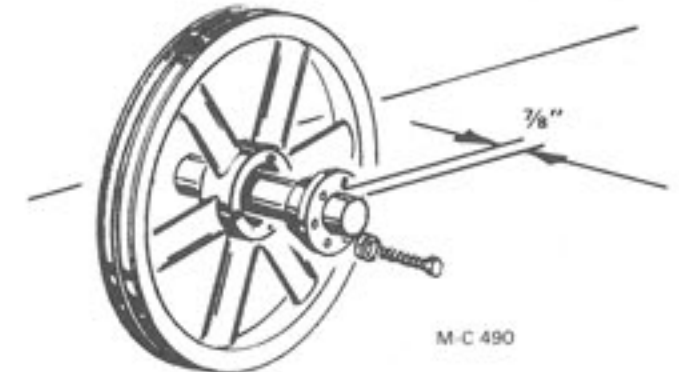

Figure 10 - Unload Auger Pulley
5. Install the 3/8" x 2" key in the unload auger shaft. Slide the pulley and bushing assembly onto the shaft until the distance from the end of the shaft to the face of the bushing is 7/8", see Figure 10. If the bushing is too tight on the shaft, wedge a screwdriver blade into the saw cut in the flange (not the tapered surface) to spread the bushing.